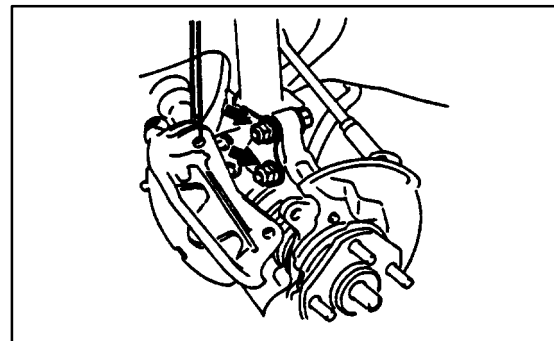

fig. 3
- III. Loosen the nuts and eliminate the gap of the steering knuckle set bolts, by pushing or pulling the lower side of the shock absorber in the direction which the camber adjustment is required (see fig. 3). Then torque the nuts, making sure not to move the bolts.